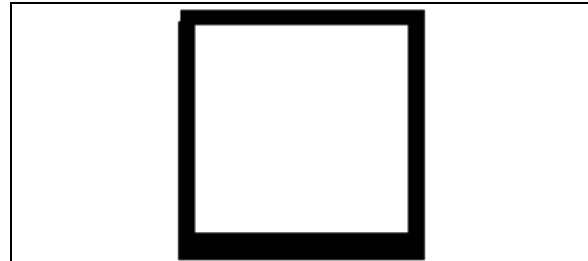

FIGURE 42 : SIDE PANEL INSTALLATION – SIKI 206 G+P APPLICATION
3. Apply Sika 206 G+P on the side panel as shown in FIGURE 42;